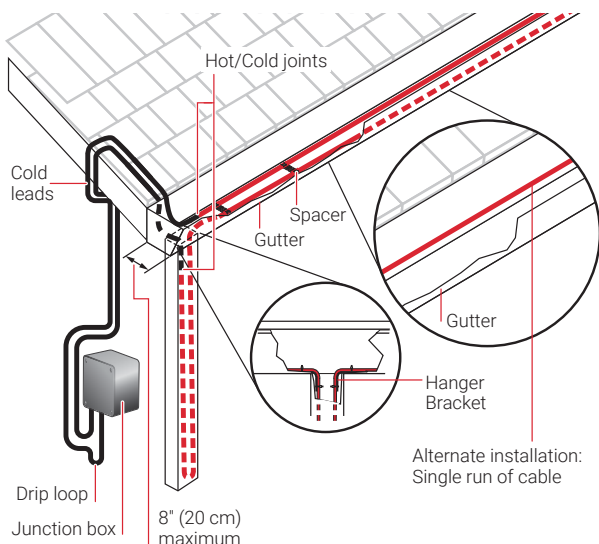
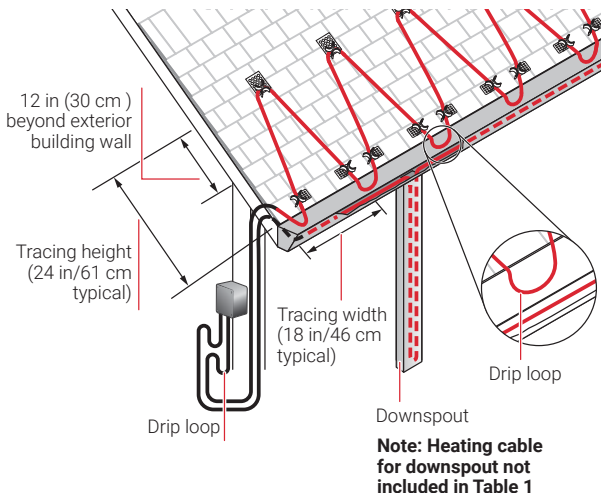

Figure 9: Gutters and downspouts
Figure 10: Layout for sloped roof - non-standing seam
3. Install one or two passes of heating cable in the gutter as per the design requirements (Figure 9 shows a double run of cable); if also installing the heating cable along the edge of a non-standing seam roof as in Figure 10, it will only be possible to install one run of cable in the gutter. It is not necessary to attach the heating cable to the gutters. If attachment is required, use 2 in (50 mm) wide adhesive metal foil tape to secure the cable to the bottom of the gutter.
For sloped roofs, ice dams may form at the roof edge. To maintain a continuous path for melt water runoff, route the heating cable in a serpentine pattern as shown in Figure 10. Additional heating cable may be needed for downspouts and valleys.
- Run heating cable up the roof, at the required angle, until it is at least 12 in (30 cm) past the exterior building wall and into the heated area below the roof (Figure 10). Handle heating cable carefully to avoid damaging the cable. Secure cable in place using roof clips available from the manufacturer. Table 1 shows the heating cable required per foot of roof edge for several common “Tracing heights” and includes one run along the gutter and a 3 in (7.5 cm) drip loop into the gutter every 18 in (46 cm).
- Continue installing the cable in a serpentine (zigzag) pattern, maintaining 18 in (46 cm) spacing between zigzags. Ensure that the bottom drip loop of the heating cable extends (overhangs) into the gutter as shown in Figure 10. This provides a continuous path for melt water to flow from the roof into the gutters.
5. Install a single run of cable back along the gutter with a loop into each downspout as shown in Figure 10 (gutters wider than 6 in (15 cm) may require 2 or more runs of heating cable). The loop should extend all of the way down to the bottom of the downspouts. It is not necessary to attach the heating cable to the gutters. If attachment is required, use 2 in (5 cm) wide adhesive metal foil tape to secure the cable to the bottom of the gutter.